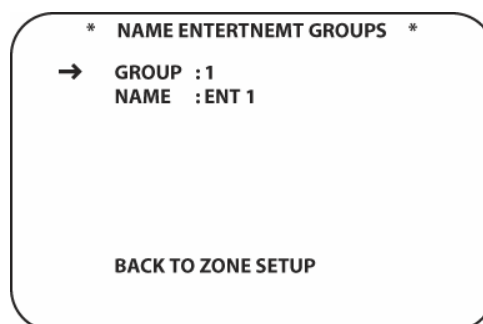

Figure 104 Name Entertainment Groups Screen
1. From ZONE SETUP PAGE 1, with the cursor next to NAME ENTERTAINMENT GROUPS, press the **Set Button [oval 18]**. The NAME ENTERTAINMENT GROUPS screen will appear. (**Figure 104**)